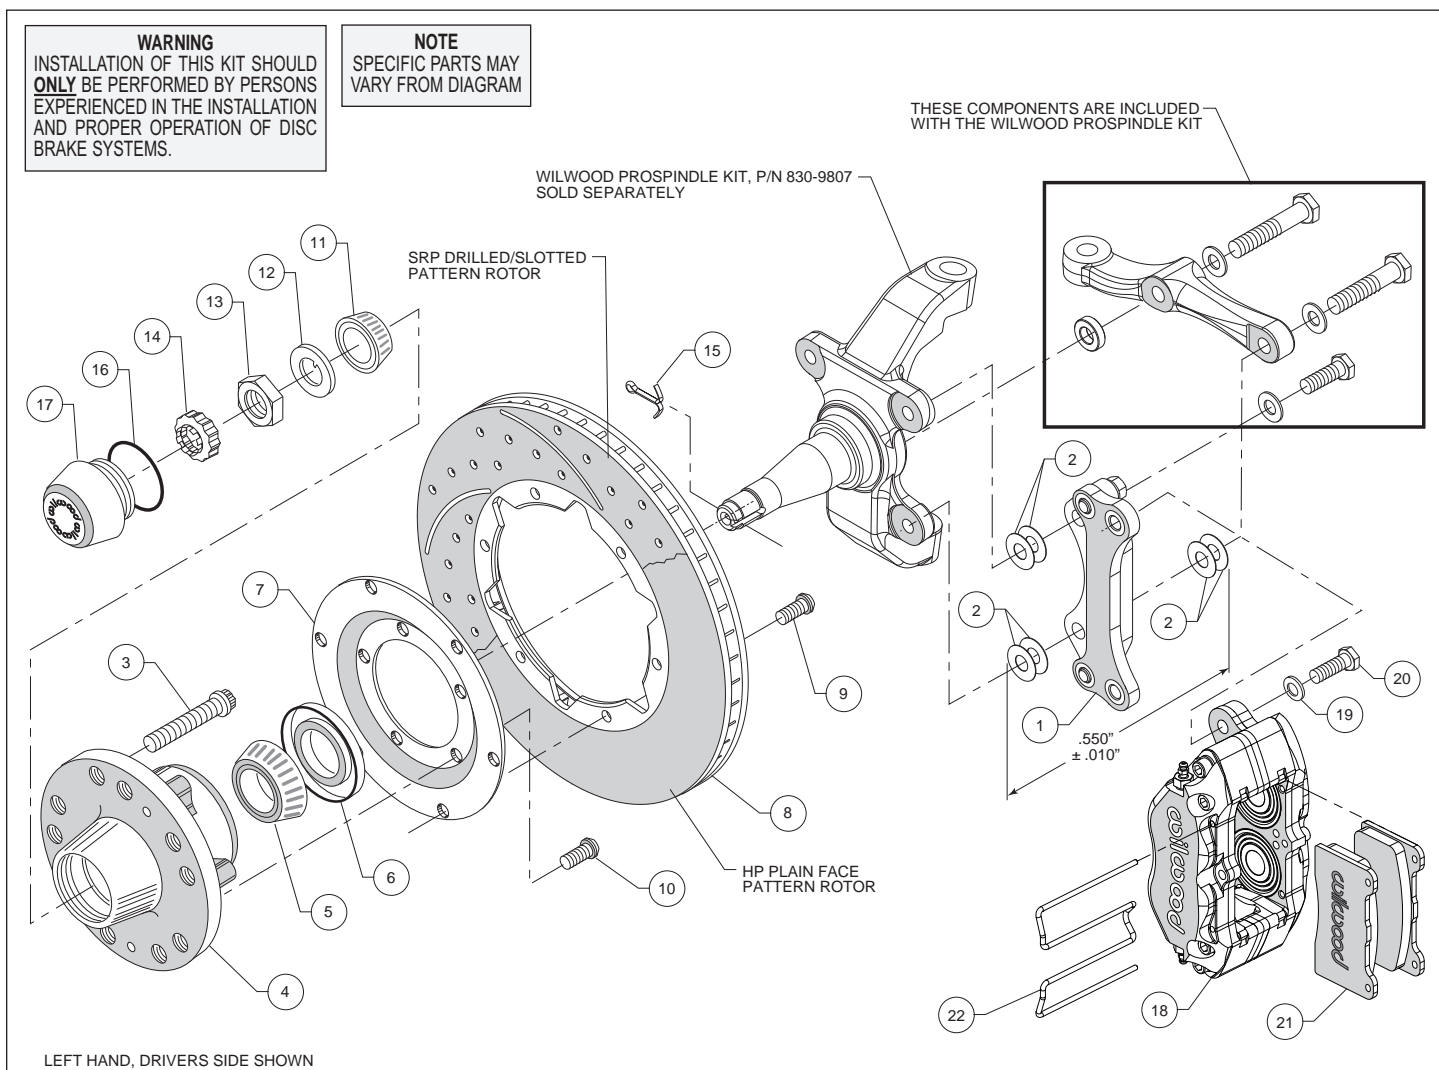
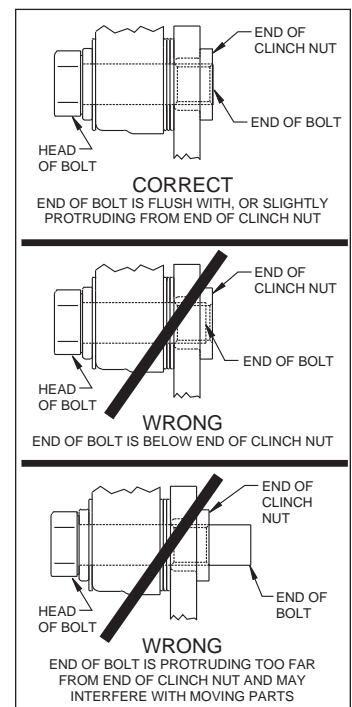

Figure 1. Typical Installation Configuration
Figure 3. Clinch Nut Engagement Diagram
**Assembly Instructions** (numbers in parenthesis refer to the parts list and Figure 1 on the preceding pages): **CAUTION:** All mounting bolts must fully engage insert nuts. Be sure to check that all bolts are either flush or protruding through flanged side of insert nut after shimming, Figure 3. **NOTE:** Rear hole refers to the part of the spindle that would be facing the back of the vehicle, front is facing the front of the vehicle.
- The caliper mounting bracket assembly (1) in conjunction with the Wilwood ProSpindle (P/N 830-9807, includes three mounting bolts, three washers, and a spacer, kit sold separately) should be installed first with clean, dry threads on the mounting bolts as follows:
- Install the bracket on the inboard side of the spindle by sliding the 1.25" long bolt from the ProSpindle kit through a flat washer, also from the ProSpindle kit, through the top hole of the caliper mounting bracket and into the upper rear spindle mounting ear hole, as shown in Figure 1. Initially place two .016" thick shims (2) on top bolt between the bracket (1) and the spindle. Do not tighten at this time.
- Slide the 2.00" long bolt from the ProSpindle kit through a flat washer, through the rear (thinner end) hole on the steering arm, through bottom hole of mounting bracket (1), and into the lower rear spindle mounting hole. Initially place two .016" thick shims (2) on bottom bolt between the bracket and the spindle, and another two .016" thick shims (2) between bracket and steering arm, Figure 1. The bracket is positioned between the steering arm and the spindle for the bottom bolt installation. The bracket and shim washers for the lower rear mounting must be a thickness of  $.550 \pm .010$ ". Do not tighten at this time.
- Finish installing the steering arm assembly by sliding the 2.25" long bolt through flat washer, then through the front (thicker end) hole of the steering arm. Place the .25" thick spacer between the steering arm and the backside of the spindle. Snug all three bolts. The bracket must tighten squarely against the inboard side of the caliper mounting bosses on the spindle body. Inspect for interference from casting irregularities, machining ridges, burrs, etc. **NOTE:** Be sure the heads of the caliper bracket (1) insert nuts are facing outward toward the wheel.
- Install wheel studs (3) into the hub (4), Photo 1. Torque to 77 ft-lb. **NOTE:** There are two lug patterns of five holes each in the hub ( $5 \times 4.50$  and  $5 \times 4.75$ ). Ensure the correct hub stud pattern is being used to fit the wheel application.
- Pack the large inner bearing cone (5) with high temperature disc brake bearing grease (available from your local auto parts store) and install into the backside of the hub (4), Photo 2.
- Install the grease seal (6) by pressing into the backside of the hub (4), Photo 2.
- Orient the rotor (8) and the rotor adapter (7) as shown in Figure 1 and Photo 3. Attach the rotor to the adapter using bolts (9). Using an alternating sequence, apply red *Loctite*® 271 to the threads, and torque to 25 ft-lb.
- Mount the adapter/rotor assembly (7/8) to the hub (4) using bolts (10), as shown in Figure 1 and Photo 4. Using an alternating sequence, apply red *Loctite*® 271 to the threads, and torque to 45 ft-lb.
- NOTE:** Please reference the caution statement at the beginning of the assembly instructions. Mount the caliper (18) onto the caliper mounting bracket (1) using bolts (20) and washers (19), as shown in Figure 1. Temporarily tighten the mounting bolts and view the rotor (8) through the top opening of the caliper. The rotor should be centered in the caliper, Photo 7. If not, adjust the caliper mounting bracket (1) by using 0.016 inch thick shims (2) placed between the caliper mounting bracket and the spindle, or between the spindle and the steering arm, whichever is applicable to gain the proper caliper/rotor alignment. Always use the same amount of shims on each of the two mounting bolts. **NOTE:** The end of each bolt must be flush with or slightly protruding from the head of the clinch nut, as shown in Figure 3. If necessary place spare shims between washer (19) and caliper mounting ear to achieve the proper clinch nut engagement. Once the caliper alignment and clinch nut engagement are correct, remove the bolts one at a time, apply red Loctite® 271 to bolt threads, and torque to 40 ft-lb.
- Install the disc brake pads (21) into the caliper, with the friction material facing the rotor (8), and secure in place using the pad clip retainer (22), Photo 8.